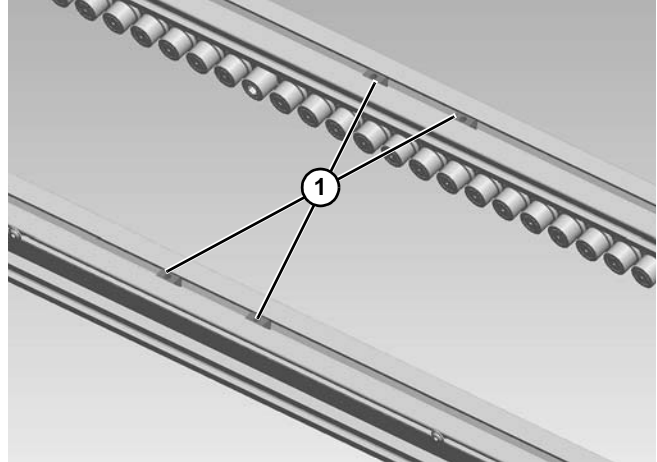

Figure 15
2. For pallet sizes 240x240 and larger, install two spring nuts (Figure 15, item 1) in bottom T-slot on both sides of the conveyor.